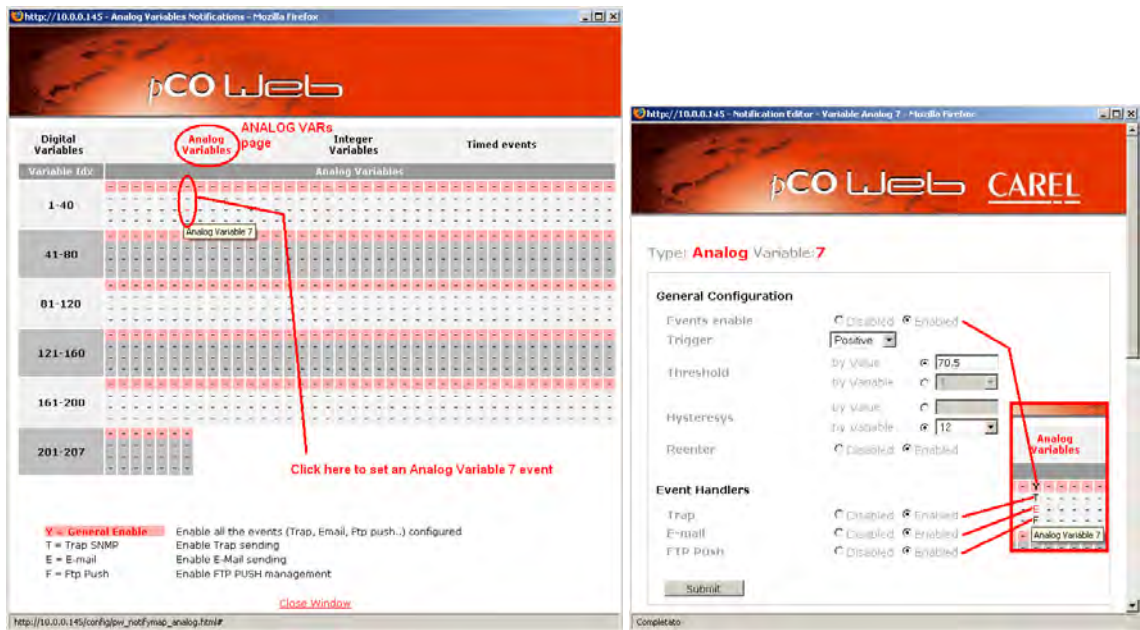

Figure 4.v - Events generated by analogue variables
- TOP SECTION – COMMON SETTINGS: **General Configuration** and **Event Handlers** (Figure 4.v - right)